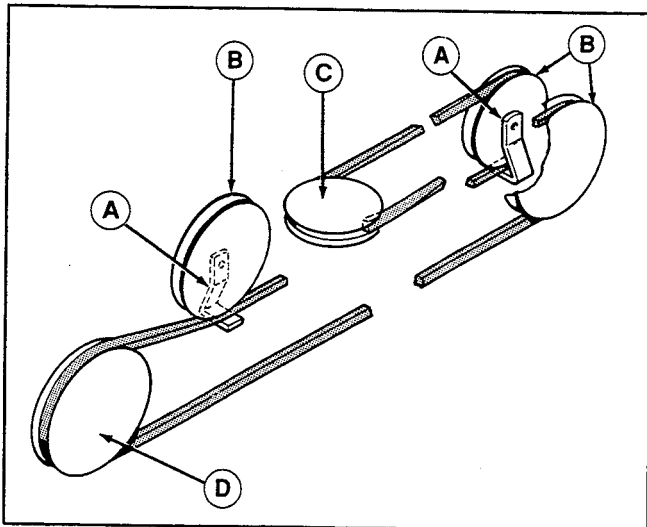

Figure 12.
3. Loosen the lockwashers and nuts securing two belt stops (A, figure 12) on idler pulleys.
4. Install new belt as shown in figure 12.
5. Retighten belt stops as shown in figure 12.